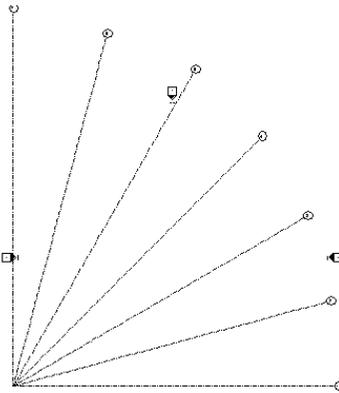

Figure 3-59 The radial grid lines with varying angles
10. Repeat steps 5 to 9 to create the remaining five grid lines that emerge from the start point of the first grid line. The temporary dimensions that you will consider to create the five radial grids are : 30° , 45° , 60° , 75° , and 90° , refer to Figure 3-59.